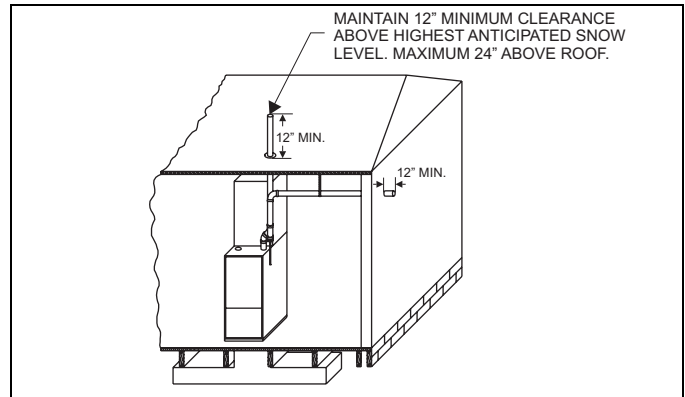

FIGURE 19: Termination Configuration - 1 Pipe
7. Sealed combustion air systems must be installed so the vent and the combustion air pipes terminate in the same atmospheric zone. Refer to Figures 19, 20, & 21.
2. **AMBIENT COMBUSTION AIR:** Combustion air is supplied from the area surrounding the furnace through the combustion air pipe in the furnace casing. The combustion air and the vent pipes are not terminated in the same atmospheric zone. Refer to Figures 19 & 26 for vent terminations. Refer to "AMBIENT COMBUSTION AIR SUPPLY" and "VENT AND SUPPLY OUTSIDE AIR SAFETY CHECK PROCEDURE" for proper installation.
This type installation will draw the air required for combustion from within the space surrounding the appliance and from areas or rooms adjacent to the space surrounding the appliance. This may be from within the space in a non-confined location or it may be brought into the furnace area from outdoors through permanent openings or ducts. It is not piped directly into the burner box. A single, properly sized pipe from the furnace vent connector to the outdoors must be provided. For down-flow models combustion air is brought into the furnace through the unit top panel opening. Do not install a pipe into the combustion air pipe at the top of the furnace. Refer to Figures 19 & 26.